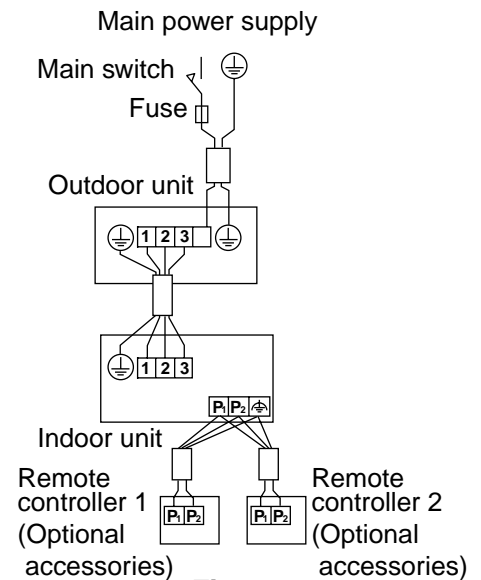

Fig. 28
- **2 remote controllers control:** 2 remote controllers control 1 indoor unit. (Refer to Fig. 28)
- (3) Remove the control box lid.
- (4) Add remote controller 2 to the remote control terminal block (P₁, P₂) in the control box. (There is no polarity.) (Refer to Fig. 28 on page 14 and Table 4 on page 15)